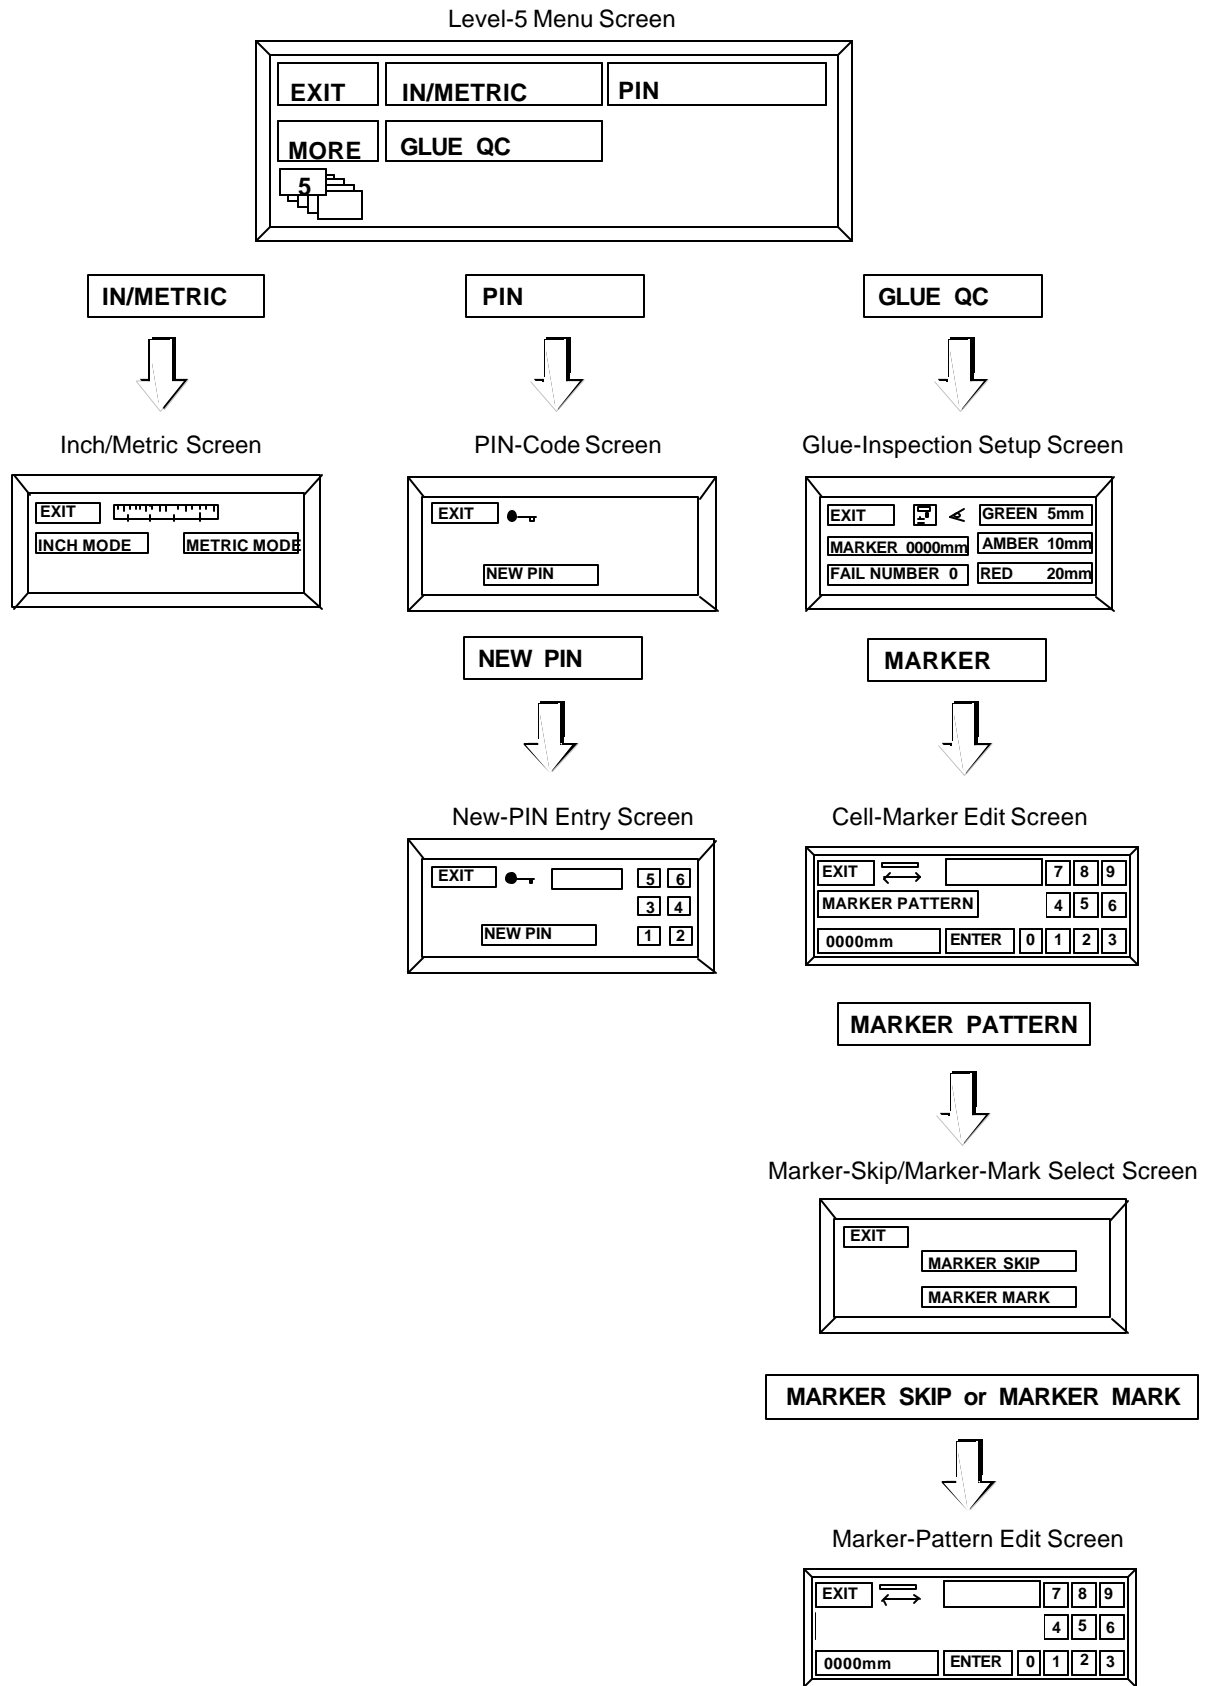

Figure 24. Level-5 Menu Screens and Related Screens
The level-5 menu screen (Figure 24) displays when the word “MORE” on the level-4 menu screen is pressed. The small box with the numeral 5 indicates that this is the level-5 menu screen. The function of each button is as follows:
The inch/metric screen (Figure 24) is used to specify either inches or millimeters. The function of each button is as follows:
The PIN code screen (Figure 24) is used to specify a PIN code in order to restrict screens 3-6. The function of each button is as follows:
The glue inspection setup screen (Figure 24) is used to specify the allowable tolerance for glue inspection pass/fail decisions. The function of each button is as follows:
The marker-edit screen (Figure 24) is used to specify the distance from the product sensor (for glue inspection) to the marker. The function of each button is as follows:
The marker-skip/marker-mark select screen (Figure 24) is used to select either the marker skip or the marker mark for editing. The function of each button is as follows:
The marker-pattern edit screen (Figure 24) is used to specify the pattern skip and mark distance on a faulty product. The function of each button is as follows:
- Level-5 menu screen and associated screens—Figure 24 (Page 41)